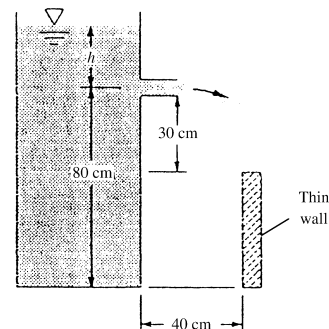

Fig. P3.154
**3.154** In Fig. P3.154 the exit nozzle is horizontal. If losses are negligible, what should the water level  $h$  cm be for the free jet to just clear the wall?